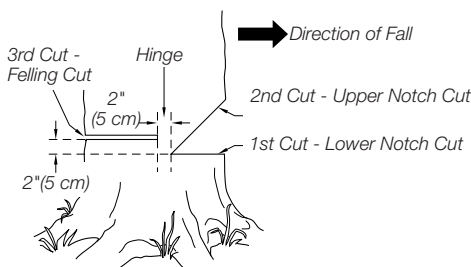

Figure 8 - Felling A Tree
A properly placed felling notch will determine direction tree will fall. Place felling notch on side of tree in direction you want tree to fall (see Figure 8). Follow directions below to create a felling notch.
1. Make lower notch cut as close to ground as possible. Hold saw so guide bar is horizontal. Cut 1/3 the diameter of tree trunk (see Figure 8). **Note:** Always make this horizontal lower notch cut first. If you make this cut second, tree can pinch chain or guide bar.
Example: If lower notch cut is eight inches deep, start upper notch cut eight inches above it. Cut downward at 45° angle. The upper notch cut should meet end of lower notch cut (see Figure 8).
1. Make felling cut two inches higher than lower notch cut and on opposite side of tree (see Figure 8). Keep felling cut parallel to lower notch cut.
⚠ WARNING: Do not cut all the way through tree. Leave about two inches of tree diameter uncut directly behind felling notch (see Figure 8). This uncut portion acts as a hinge. The hinge helps keep tree from twisting and falling in wrong direction.